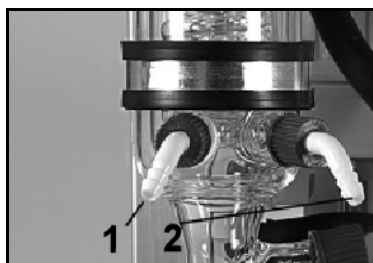

Fig. 16: Coolant supply of high performance condenser
i See fig. 16, page 29 for coolant inlet and outlet.
Coolant inlet and outlet see fig. 16.
i Coolant inlet and outlet see fig. 16.
- i** Coolant inlet and outlet see fig. 16.